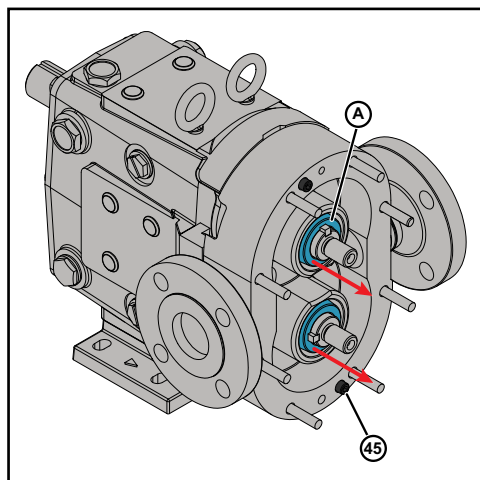

Figure 94 - Install Cap screw
4. Secure the pump body to the gear case using two cap screws (45).
5. Remove both the installation guide (A) from the pump body, as shown in Figure 94.